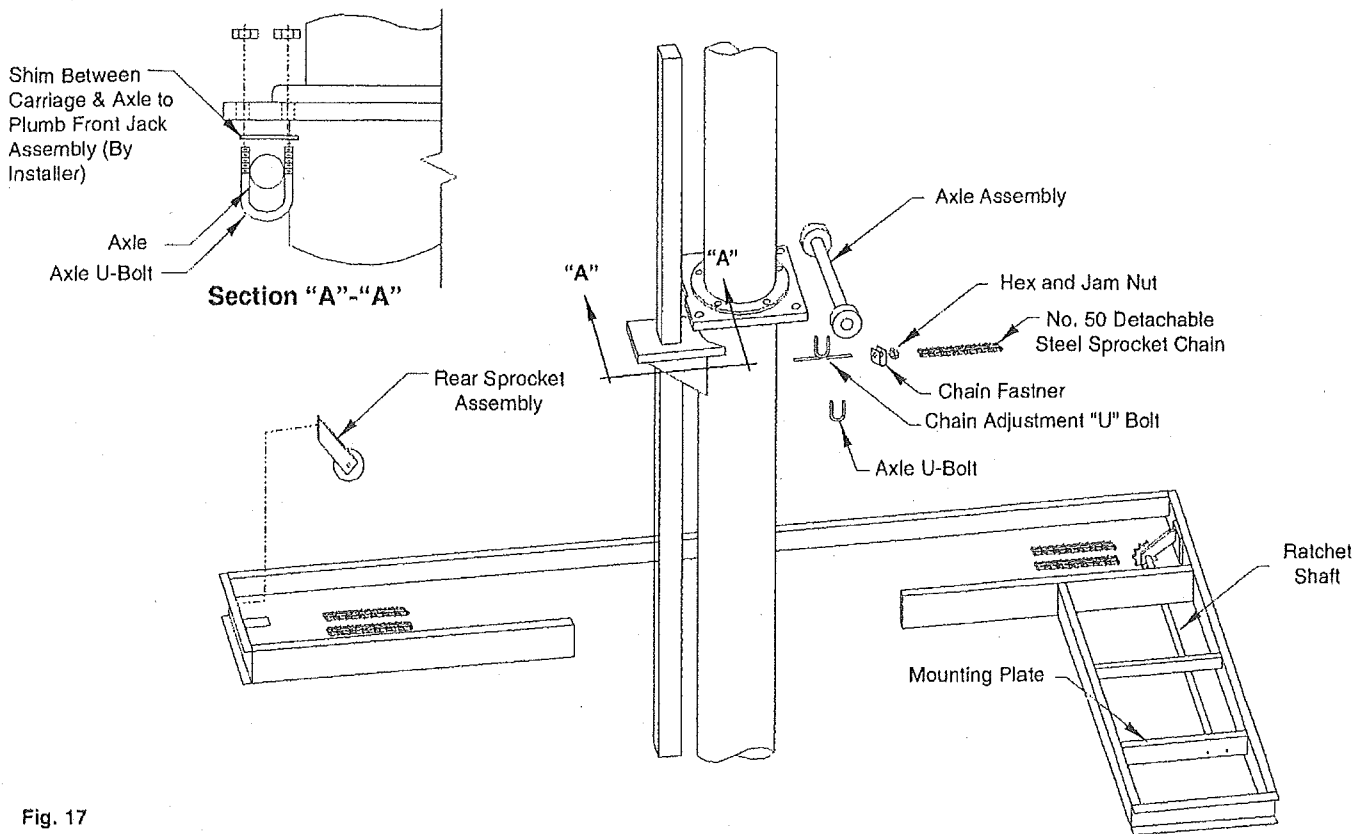

Fig. 17
- A. Remove frame spacers, concrete and dirt from tracks. Install carriage axle and roller assemblies midway of the front frame 12 1/2" apart. Roll full length of channels to check clearance, Fig. 17.
- C. Level the carriage with shims and secure with 3/8" "U" bolts, Fig. 17, Section "A-A".
- G. Tighten chain with 1/2" jam nut, Fig. 17 & 18.
H. Adjust chain until positive movement is achieved with drive/ratchet assembly, Fig. 17.